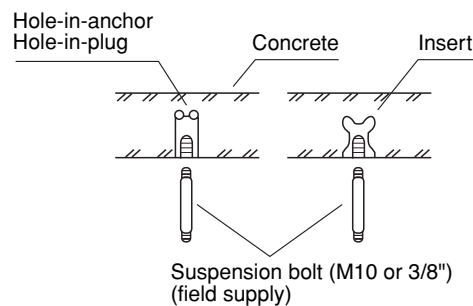

Fig. 3-58
- Insert suspension bolts as shown in Fig. 3-58 or
- (2) Screw in the suspension bolts allowing them to protrude from the ceiling as shown in Fig. 3-58. (Cut the ceiling material, if necessary.)